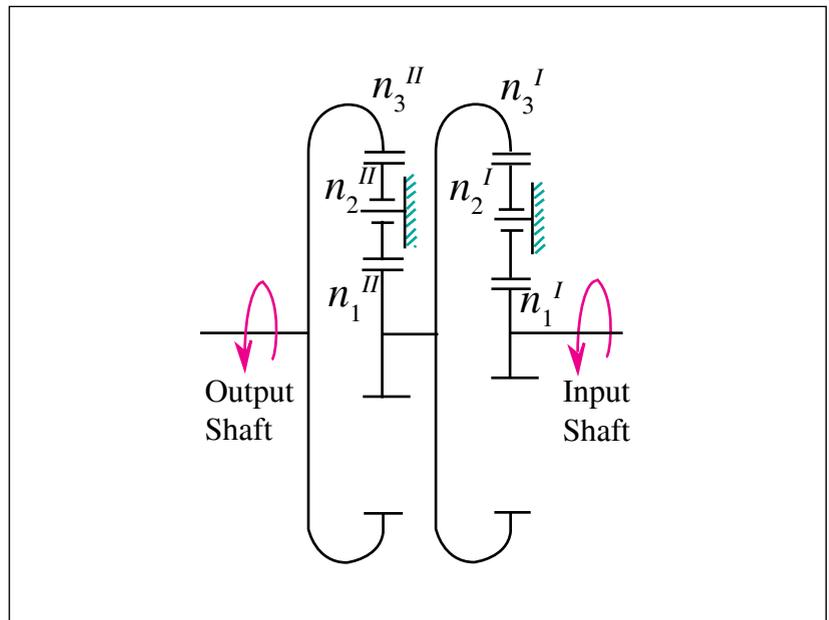
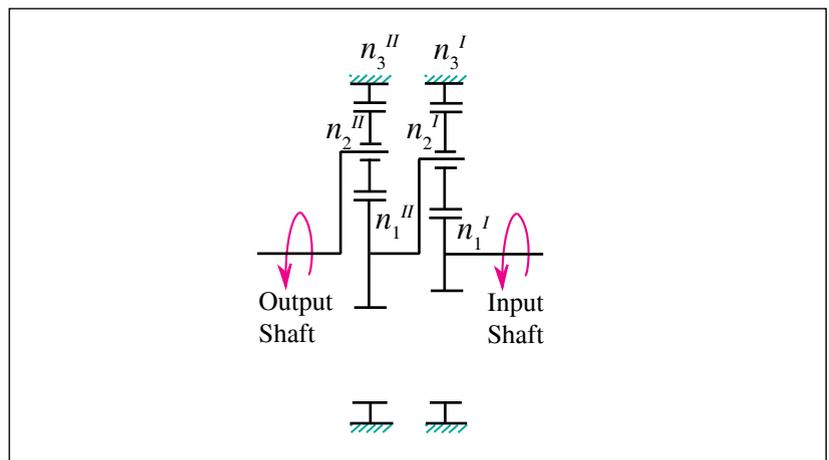
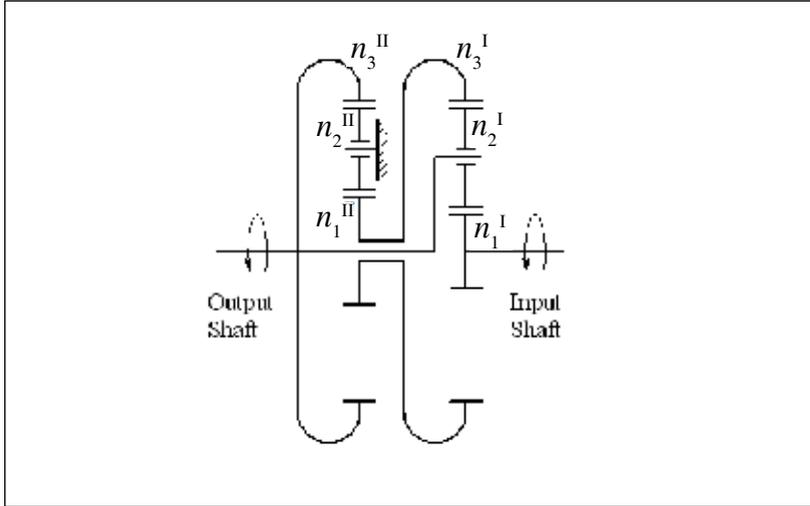

Figure 4—Two-stage epicyclic “star” gear train.
Figure 5—Two-stage epicyclic planetary gear train.
Figure 6—Two-stage epicyclic differential gear train.
2. Epicyclic “star” arrangement (Fig. 4)
3. Epicyclic planetary arrangement (Fig. 5)
This epicyclic planetary gear arrangement is a more compact and lighter gearbox than the “star” example (Fig. 4), because the planet gears are installed on the carrier and involved in the planetary motion around the sun gear. The total gear ratio is:
4. Epicyclic differential arrangement (Fig. 6)
This allows a reduction of the size and weight of the second-most loaded stage and makes the gearbox more compact and lighter than with the planetary arrangement (Fig. 5). The total gear ratio is:
Figure 8 shows the volume function versus the first-stage gear ratio charts for the two-stage epicyclic gear arrangements (Figs. 4–6) with the total gear ratio of $u = 15:1$; both stages have three planets. The volume utilization coefficients are assumed for the sun gears to be— $K_{v1} = 0.8$; planet gears— $K_{v2} = 0.5$; and ring gears— $K_{v3} = 0.1$. The effective gear face width ratio in the epicyclic gear stage is assumed as $K_b = 0.75$.
Figure 8—Two-stage epicyclic gear train volume function charts; A = “star” arrangement (Fig. 4); B = planetary (Fig. 5); C = with first differential stage (Fig. 6).